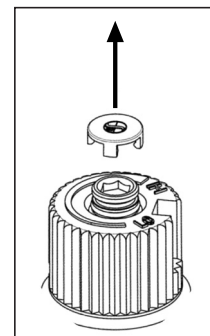

Figure 12: Removing valve cap.
- Remove the black protection cap from the HI/LO knob by hand (Figure 12)
- h) Re-attach the black protection cap that was removed in step "c)". (Figure 12).